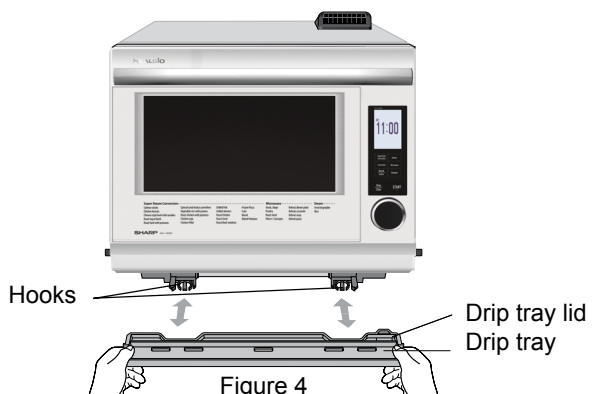

Figure 4
The drip tray and the lid are packed with the oven. Place the drip tray and lid under the oven door as shown in Figure 4. This drip tray collects the condensation from the oven door. To remove the drip tray: Pull the drip tray toward you with both hands.
To replace the drip tray: Place the drip tray onto the right and left hooks under the oven and push firmly as shown in Figure 4. Insert the drip tray horizontally when you attach it. Improper use may cause the damage to the hooks.
**5** When the oven has stopped and is cool, remove water tank, empty, rinse and refill with room temperature water suitable for drinking (filtered). Replace water tank. Remove the descaling guide as shown in Figure 4. Remove baking tray, empty, rinse and dry. Follow step 3 to replace baking tray and descaling guide. Press START. Rinsing will start.
**6** When rinsing has ended and the oven is cool, remove water tank and empty. Then remove descaling guide as shown in Figure 4. Remove baking tray and empty. Wipe oven cavity to dry. Wait a few minutes and then empty the drip tray.